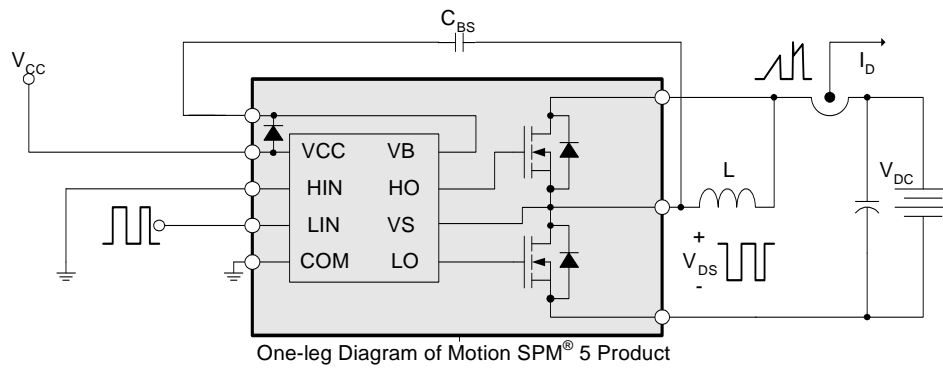
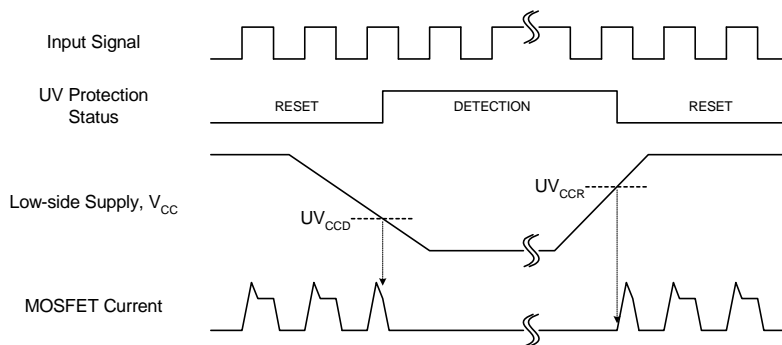

Figure 6. Switching and RBSOA (Single-pulse) Test Circuit (Low-side)
Figure 7. Under-Voltage Protection (Low-Side)
- t_{ON} and t_{OFF} include the propagation delay of the internal drive IC. Listed values are measured at the laboratory test condition, and they can be different according to the field applications due to the effect of different printed circuit boards and wirings. Please see Figure 6 for the switching time definition with the switching test circuit of Figure 7.
- The peak current and voltage of each MOSFET during the switching operation should be included in the Safe Operating Area (SOA). Please see Figure 7 for the RBSOA test circuit that is same as the switching test circuit.